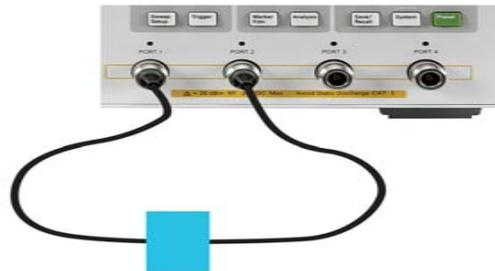

Figure 8 Thru connection
- f. Connect Thru connection as shown in figure 8